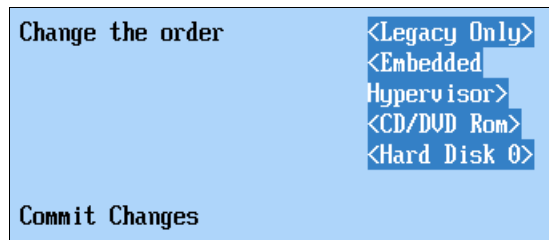

Figure 6-50 Example of a boot order
5. Change the boot order to Legacy Only followed by Embedded Hypervisor, as shown in Figure 6-50.